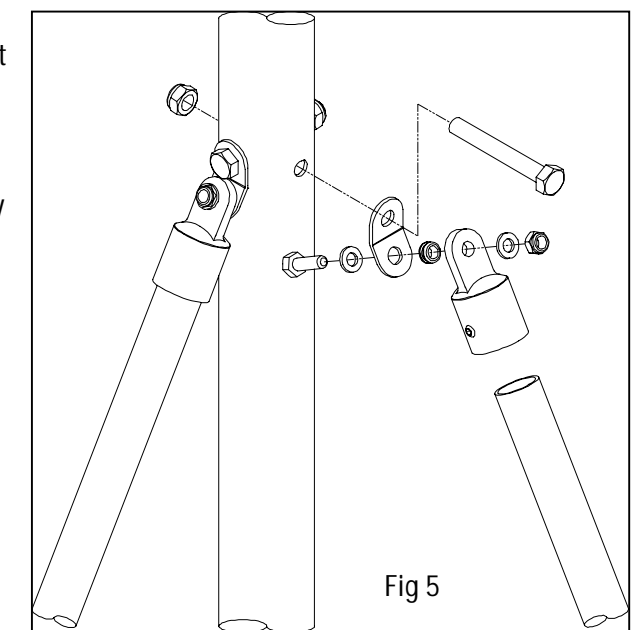

Fig 5
- Tighten the M6 Nyloc nuts on the guy brackets using 10mm spanners. (see Fig.5)